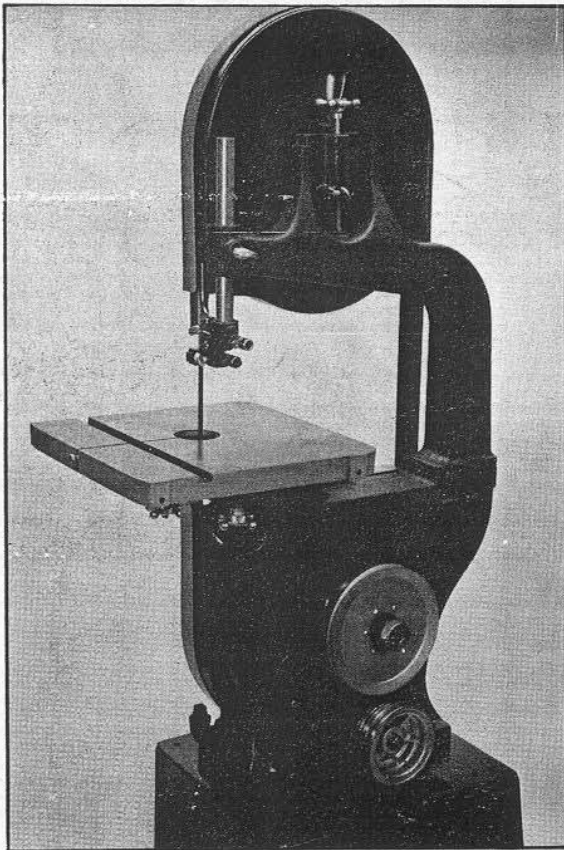

Fig. 6
3. Return the stand to the upright position and assemble band saw to stand using four 1-1/2" round head slotted screws, flat washers, lockwashers and nuts, as shown in Fig. 6.